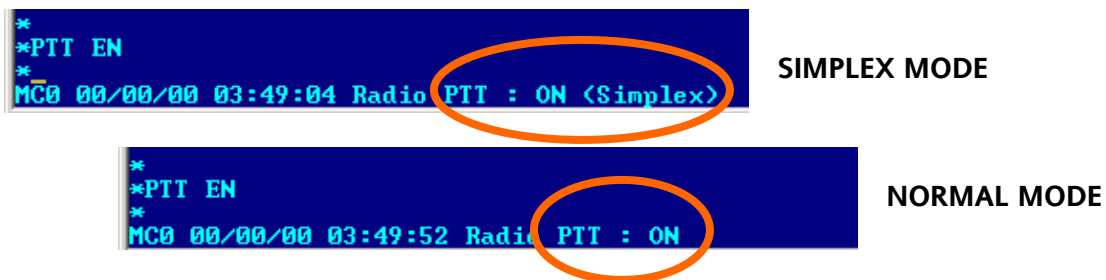

Figure 4-22 Simplex and Normal Mode Displays
The SIMP command enables or disables the MCP radio simplex mode of operation. In the normal mode, one frequency is used for transmit and another frequency is used for receive. In the simplex mode, the normal mode receive frequency is also used for transmit. The radio is initially in the normal mode. When the MCP is in the out-of-coverage (fallback) mode, it will revert to simplex mode operation to allow direct RF-user to RF-user communication. There is no direct indication that this command has been executed. However, the simplex/normal mode status may be monitored by executing the Status Logging (SL) command. When the radio is keyed, simplex operation is indicated in the radio PTT state field as displayed in Figure 4-22.